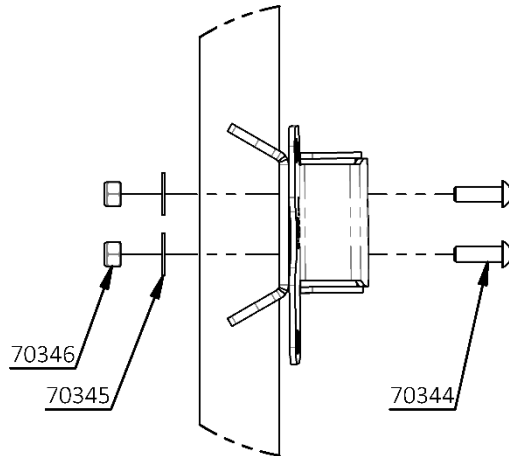

Figure 10: Inner Door Mounting Hardware
17. Loosely bolt the base unit to the inner door bracket using two 5/16"-18 X 1" button head bolts (70344), two 5/16" washers (70345) and two 5/16" nylock nuts (70346) as seen in Figure 10.